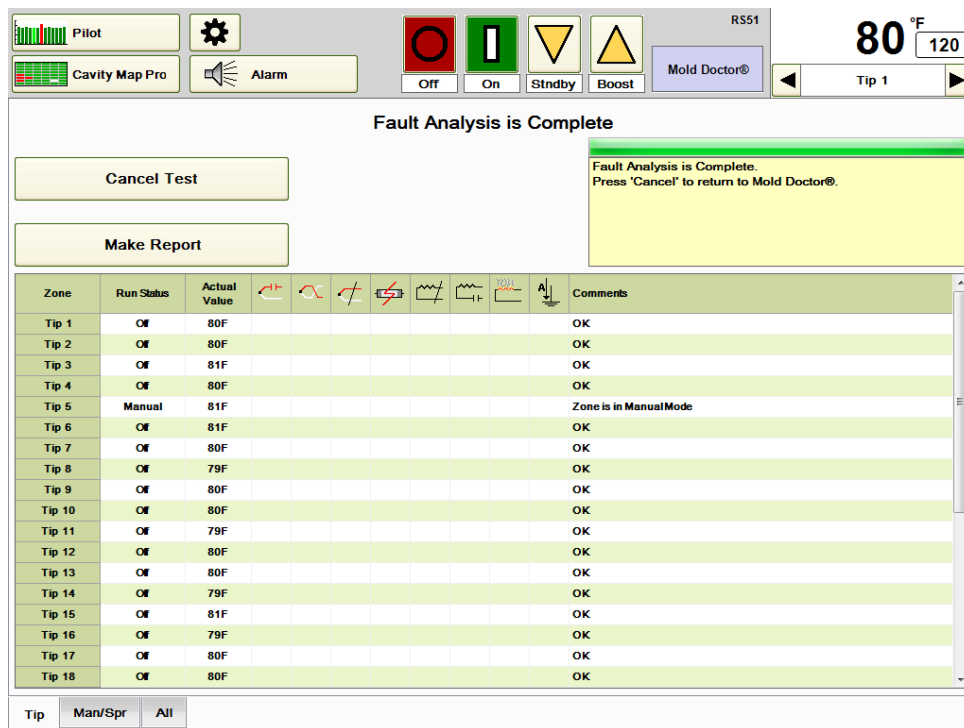

Figure 20e Fault Analysis
- 1) Select the group that is to be tested from the group tabs at the bottom of the screen. Zones that are in manual mode or locked off will not be tested. In the example shown in Figure 20e, Tip 5 is in manual and is not tested.
- 4) The report can be saved by touching the **Make Report** button shown in Figure 20e and choosing USB drive or the D:\G24\Reports directory.